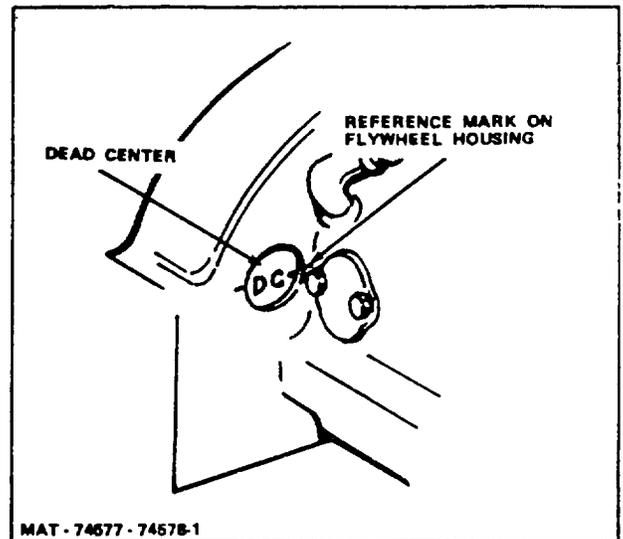

Figure 9. Flywheel Timing Marks
5. Place thumb over spark plug opening and rotate the engine crankshaft by hand until an outward pressure against thumb is felt. Continue turning crank-shaft until D.C. mark (Figure 9), is aligned with the reference mark at center of the timing window.
3. Remove timing window cover on flywheel housing and manually turn crankshaft until D.C. mark aligns exactly with reference mark on flywheel housing (Figure 9).
2. Remove flywheel inspection cover and turn crankshaft manually to align flywheel D.C. (Dead-Center) mark with reference mark on flywheel housing (Figure 9).